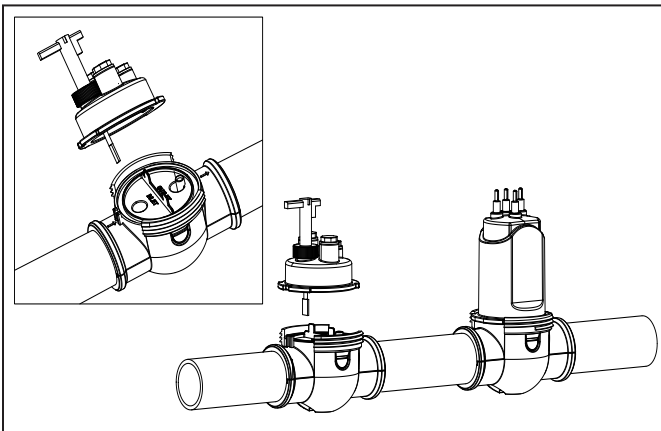

Figure 12. Installing Pod and Cell
12. Install the cell and the pod making sure the pod is installed upstream from the cell. When installing the pod, make sure the flow switch is inserted into the inlet port on the clamp (see Figure 12).